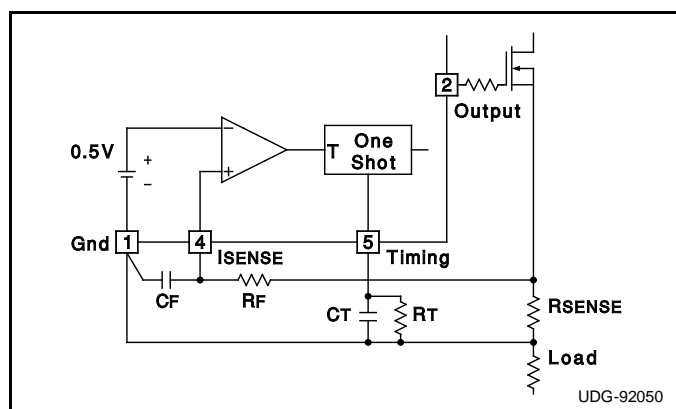

FIGURE 4 - Current Limit
**CURRENT LIMIT AND TIMING:** Current sensing and shutdown can be implemented directly at the output using the scheme shown in Figure 4. Alternatively, a current transformer can be used in place of RSENSE. A small RC filter in series with the input (pin 4) is generally needed to eliminate the leading edge current spike caused by parasitic circuit capacitances being charged during turn on. Due to the speed of the current sense circuit, it is very important to ground CF directly to Gnd as shown to eliminate false triggering of the one shot caused by ground drops.
capacitor and resistor as shown in Figure 4. This, in turn, controls the output off time according to the formula: